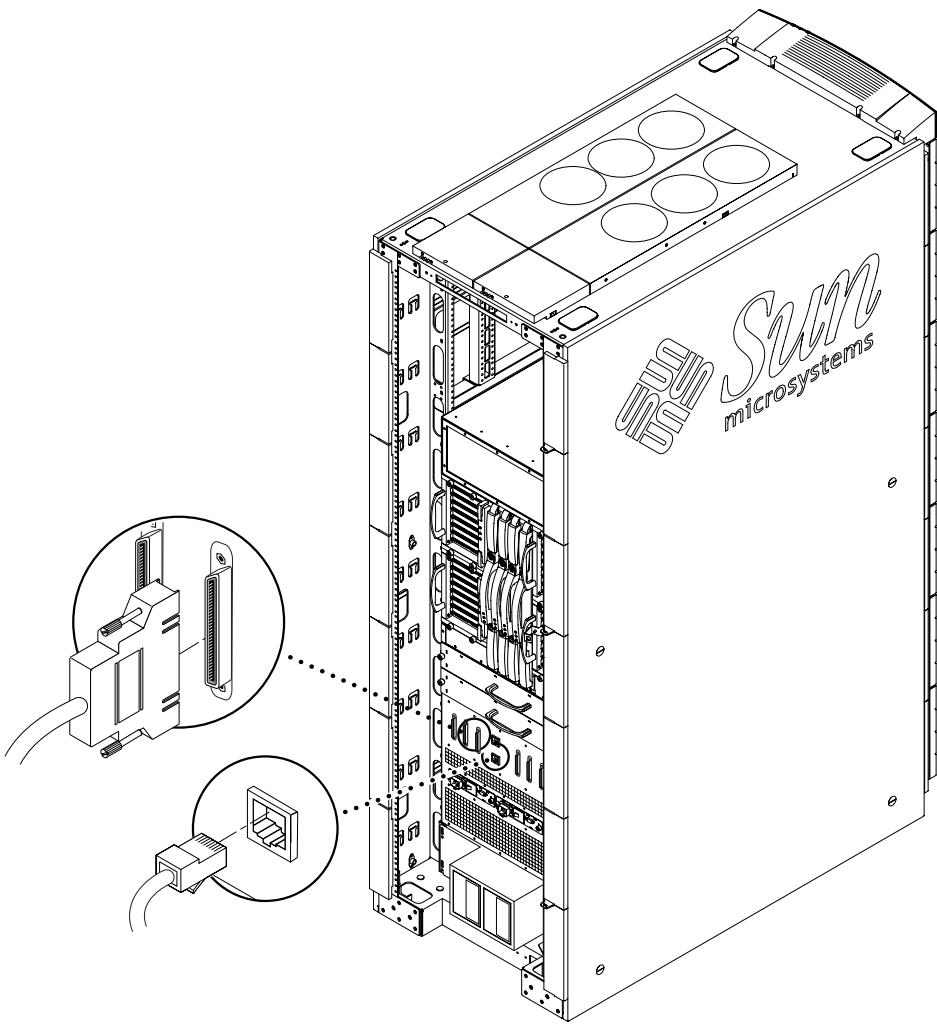

FIGURE 2-11 Primary TTYa Serial Port and Primary Ethernet Connections on the Patch Panel
1. Connect one end of each I/O cable to the appropriate card in the I/O assembly (FIGURE 2-11).
1. Connect one end of the serial cable (TTYa or Null modem) to the primary serial port on the patch panel (FIGURE 2-11).
1. Connect one end of the shielded Category-5 Ethernet cable to the primary RJ-45 Ethernet port on the patch panel (FIGURE 2-11).